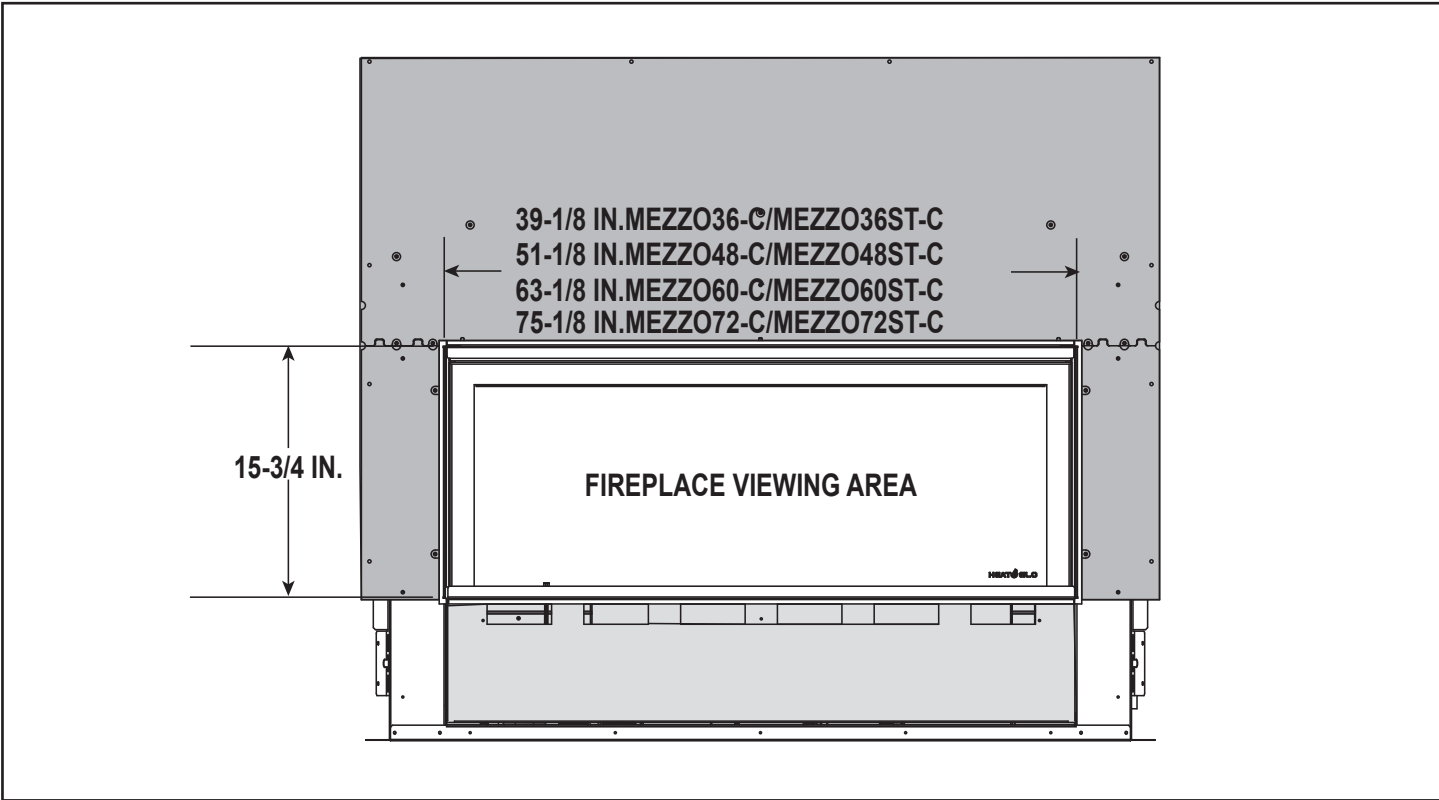

Figure 10.4 Minimum Finished Opening Dimensions - Clean Face Trim Front Method
2. The non-combustible finish material, 0-1 inch thick, should be installed up to the fireplace opening on all four sides, including the bottom access panel, covering the eight rectangular holes. Refer to Figure 10.4 for minimum finished opening dimensions.
- 2. The non-combustible finish material, 1-4 inches thick, should be installed up to the fireplace opening on all four sides, including the bottom access panel, covering the eight rectangular holes. Refer to Figure 10.4.